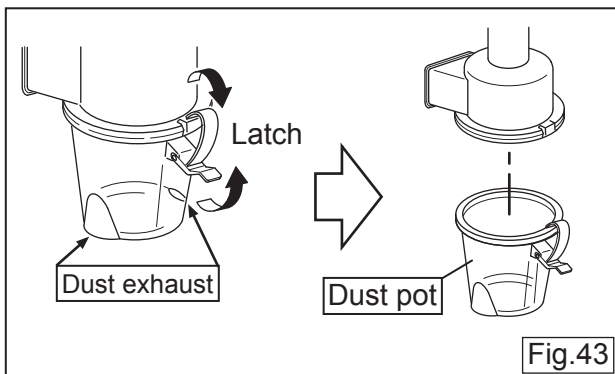

Fig.43
- Latch off to remove Dust Pot. (Fig.43)